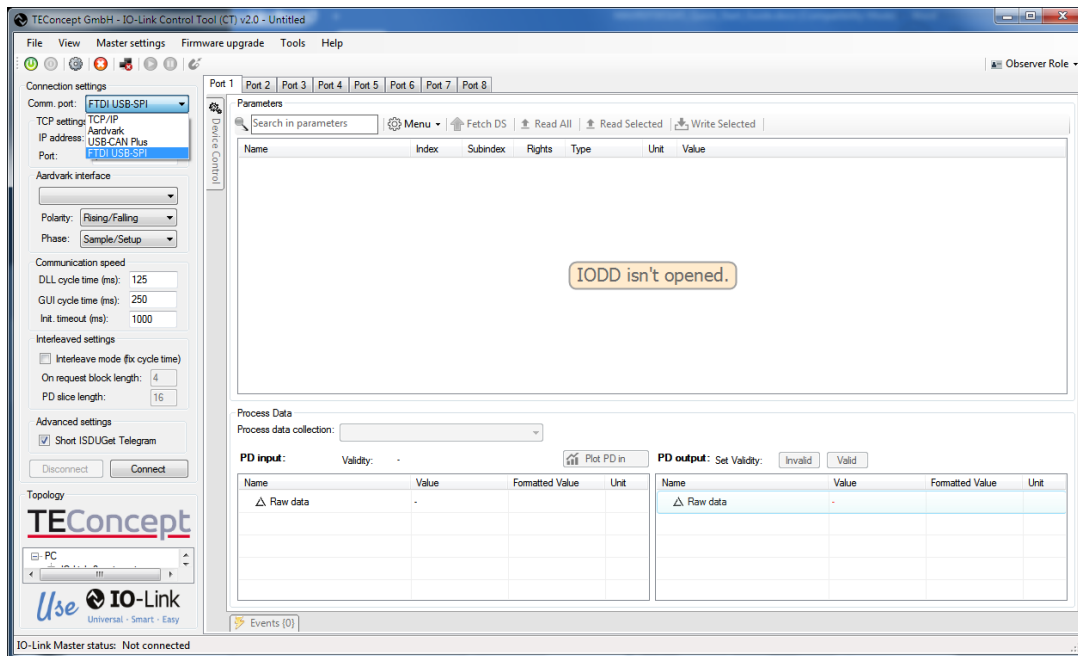

Figure 5. TEConcept IO-Link CT software (tested with version 2.0.6099.29897).
- Run the TEConcept CT software as shown in **Figure 5**. Press the **connection settings** icon, which is a gray gear icon. Select FTDI USB-SPI. Pressing the **Connect** button shows a flashing green COM connection label at the bottom of the GUI once connected.